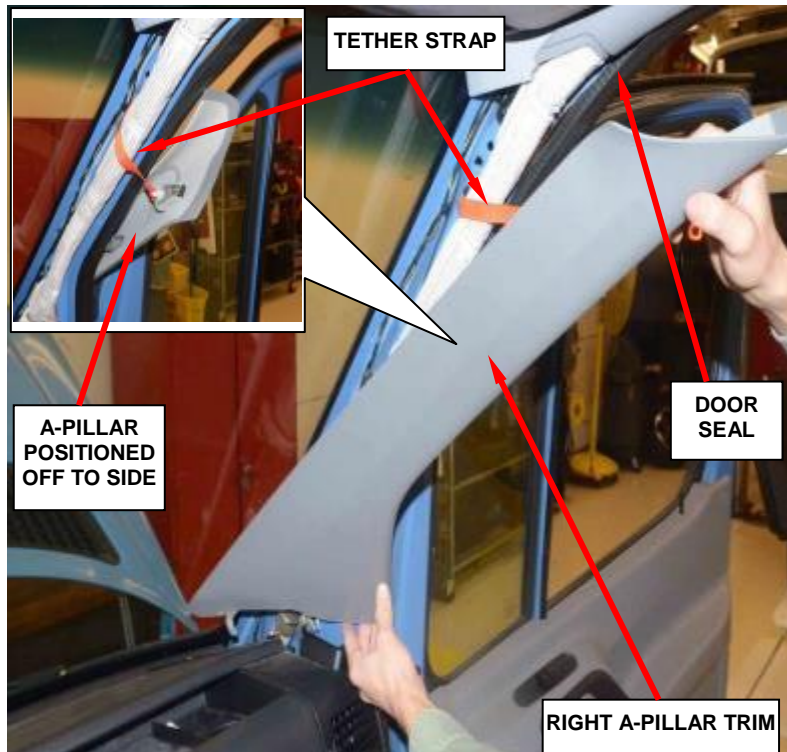

Figure 148 – Right A-Pillar Trim
8. Partially remove the right front door seal near the A-Pillar (Figure 148).
9. Remove the right A-Pillar trim and position off to the side (Figure 148).